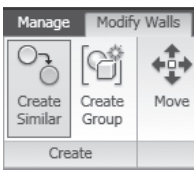

Figure 4.31
5. All that's left to do is draw the last segment and close the fireplace walls. To do that, select only one of the masonry walls of the fireplace, right-click to open the context menu, and select Create Similar (Figure 4.31).
1. From the 3D view, select the wall running into the fireplace, as shown earlier in Figure 4.31. Open the Element Properties dialog box, and change the top constraint to